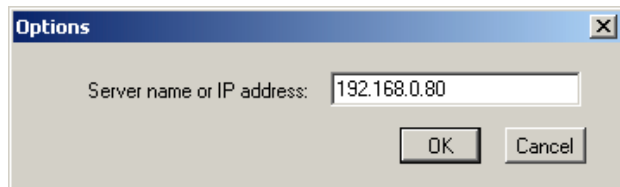

figure 57.3: Options window
- 1 Go to *File > Options*. A screen similar to the one in figure 57.3 appears.